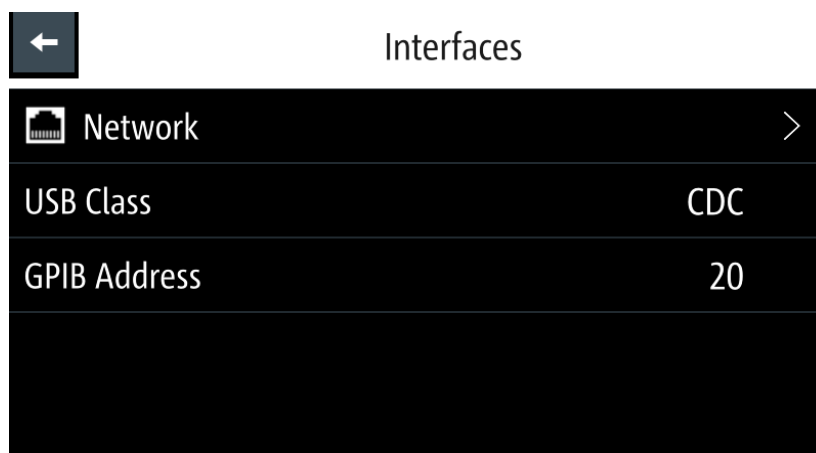

Figure 6-26: Interfaces dialog
1. Select "Network" from the Figure 6-26.